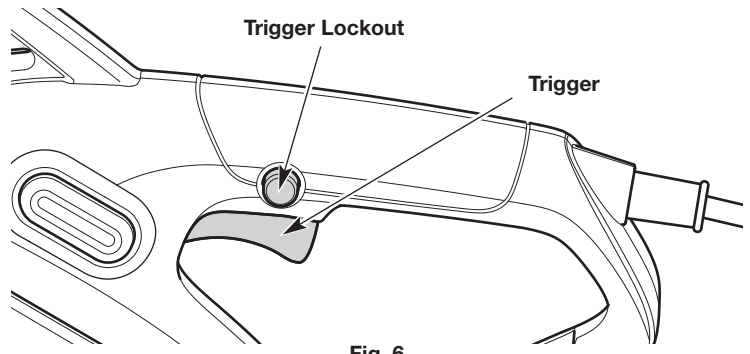

Fig. 6
1. Press and hold the trigger lockout (Fig. 6).
2. Continue to hold the trigger lockout. Squeeze and hold the trigger to start the unit (Fig. 6).
1. Release the trigger and wait for all moving parts to come to a complete stop (Fig. 6).